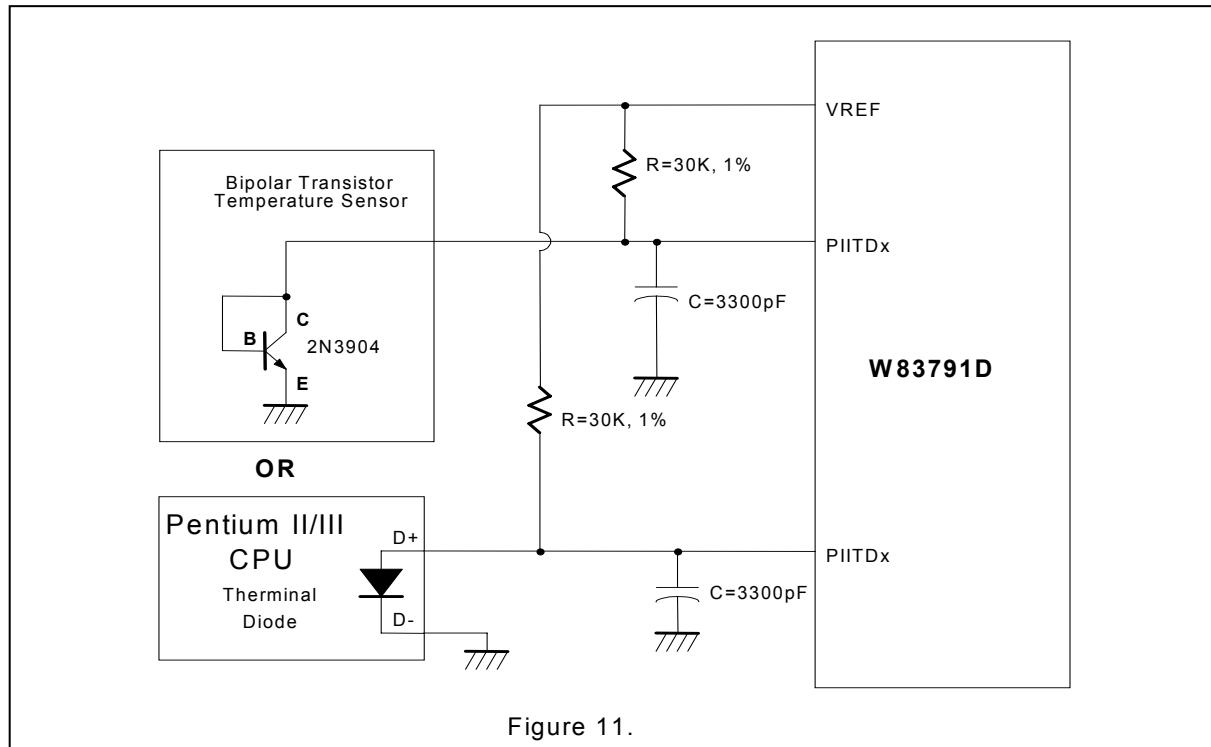

Figure 11.
The negative voltage should be connected to two series resistors and a positive voltage VREF (equal to 3.6V). In the Figure 11, the voltage V3 and V4 are two negative voltages and are -12V and -5V respectively. The voltage V3 is connected to two serial resistors as well as another positive terminal VREF. Therefore, the voltage node N12VIN would be a positive voltage if the scale of the two serial resistors are carefully selected. It is recommended from Winbond that the scale of the two serial resistors are R5=232K ohms and R6=56K ohm. The input voltage of node -12VIN can be calculated by the following equation.
The W83791D/G can connect three thermistors to measure three different environmental temperatures. The specification of thermistor should be considered to (1)  $\beta$  value is 3435K, (2) resistor value is 10K ohms at 25°C. In the Figure 11, the thermistor is connected by a serial resistor with 10K Ohms (1% error), then connect to VREF (Pin 37).
The W83791D/G can alternate the thermistor to Pentium II/III™ thermal diode interface or transistor 2N3904 and the circuit connection is shown as Figure 11. The pin of Pentium II/III™ D- is connected to power supply ground (GND) and the pin D+ is connected to pin PIITDx in the W83791D/G. The resistor  $R=30K$  ohms should be connected to VREF to supply the diode bias current and the bypass capacitor  $C=3300pF$  should be added to filter the high frequency noise. The transistor 2N3904 should be connected to a form with a diode, that is, the Base (B) and Collector (C) in the 2N3904 should be tied together to act as a thermal diode.